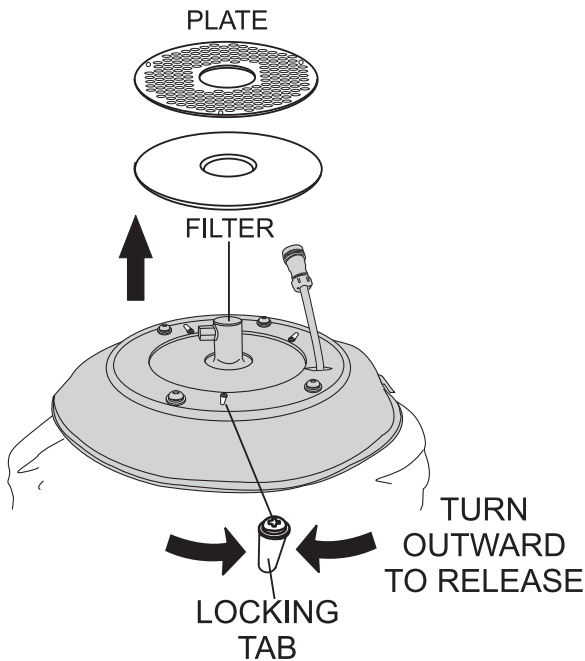

Figure 41. Filter Removal
4. Turn the three locking tabs (Figure 41) inward to release the plate. Remove plate and filter.